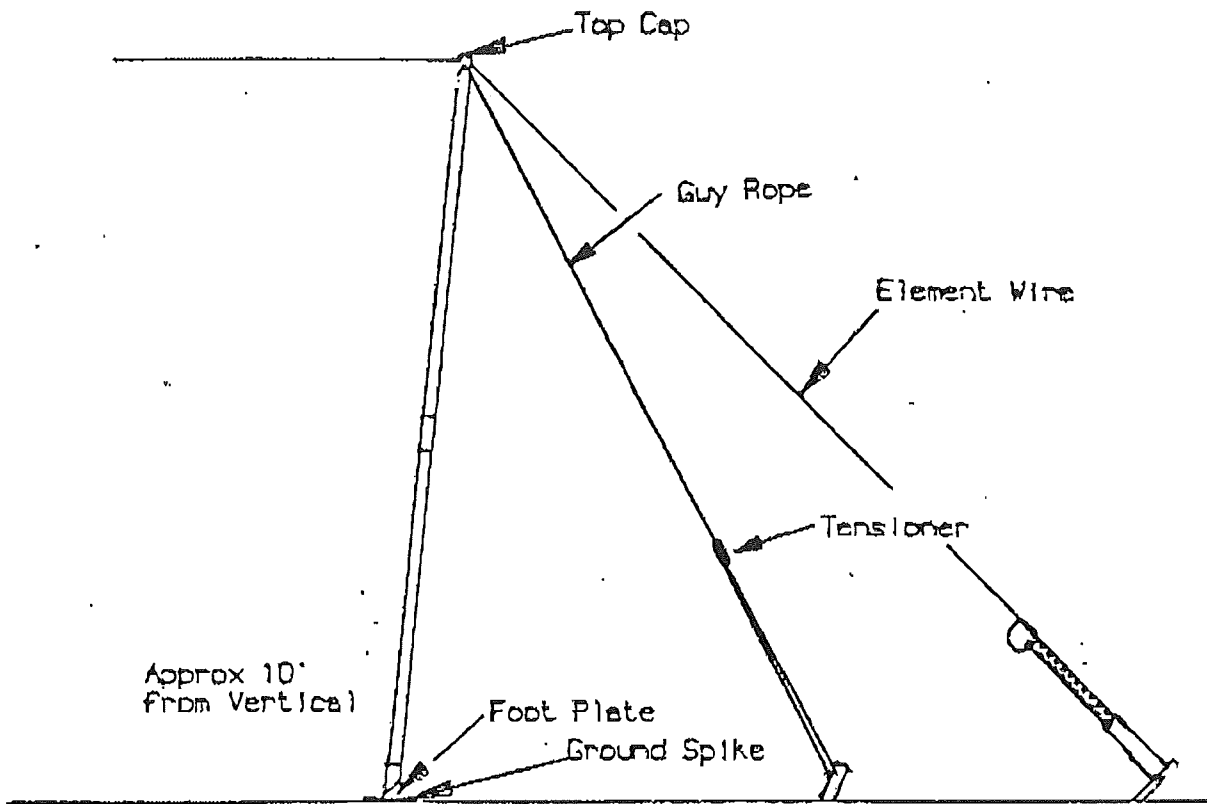

Figure 5-12. Sloping Vee Termination
Step 11 Disconnect the Aerial Wire Assembly from the reel and terminate it with a Load Assembly and Ground Peg Assembly. Pretension the wire, drive in the Ground Peg Assembly, and assemble and erect the Minimast. Repeat this on the second element of the vee. (See paragraphs 4.2.7, 4.2.8, 4.2.9 and 4.2.10) (See Figure 5-12.)